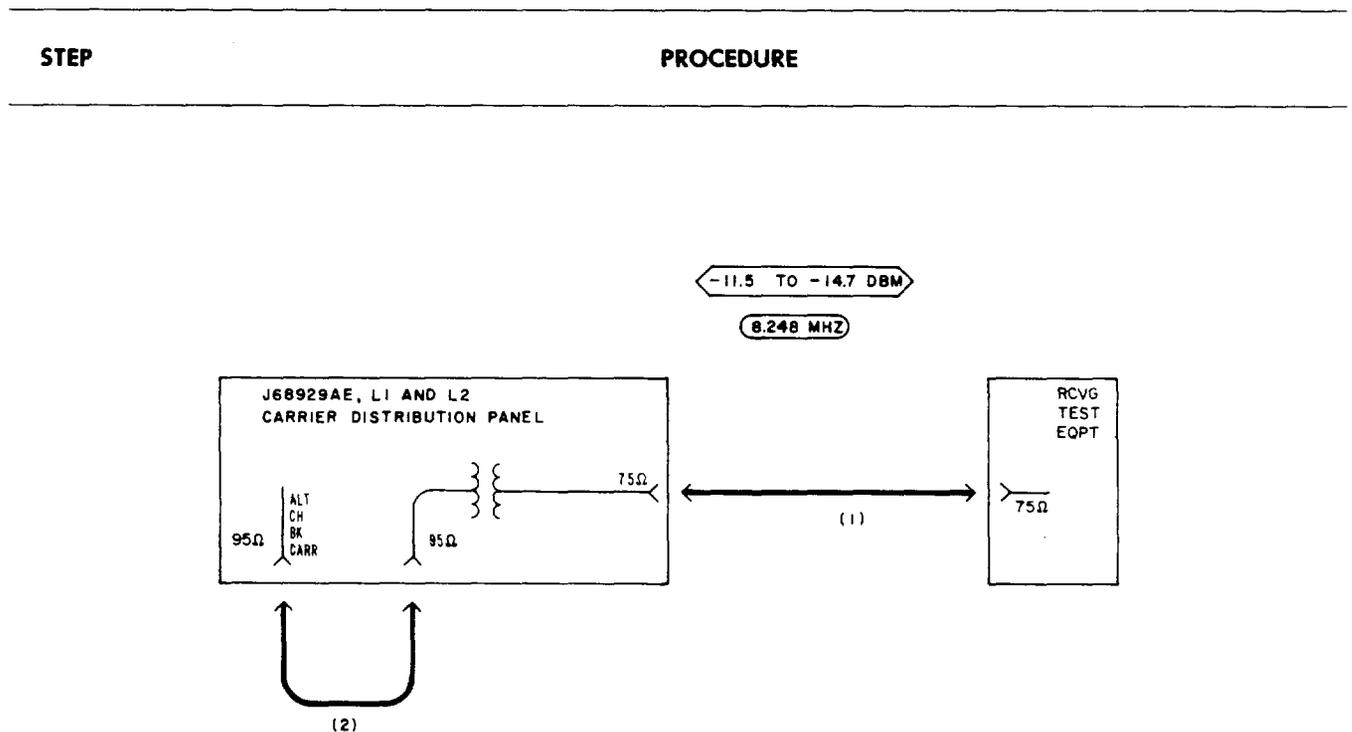

Fig. 8—♦Patching Diagram—Alternate (or Auxiliary) Channel-Bank-Carrier Test—At Regular Carrier Supply♦
35 Connect the 95Ω jack to the ALT CH BK CARR jack [patch (2), Fig. 8].
38 Remove patch (2), Fig. 8.